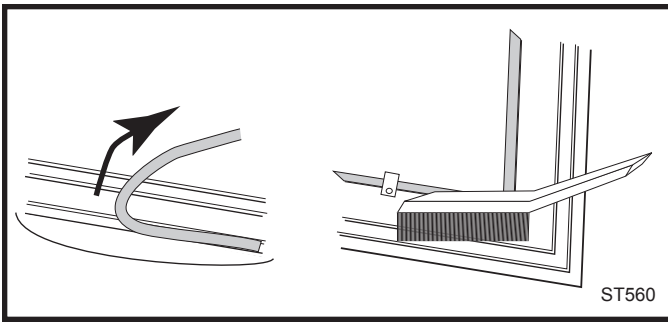

Fig. 44 Remove gasket then clean channel with wire brush.
1. Remove the existing gasket by grasping an end and pulling firmly. (Fig. 44)
2. Use a wire brush or the tip of a screwdriver to clean the channel of any remaining cement or bits of gasket. Remove stubborn deposits of cement with a cold chisel if necessary. (Fig. 44)